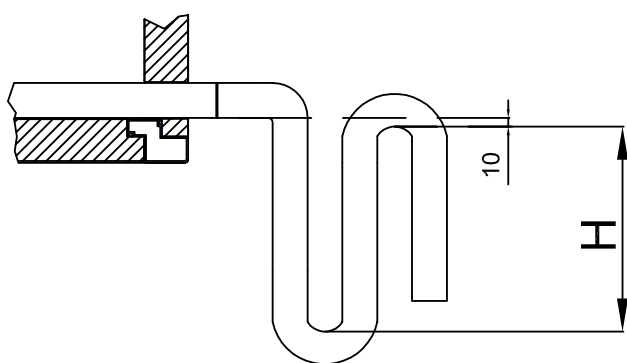
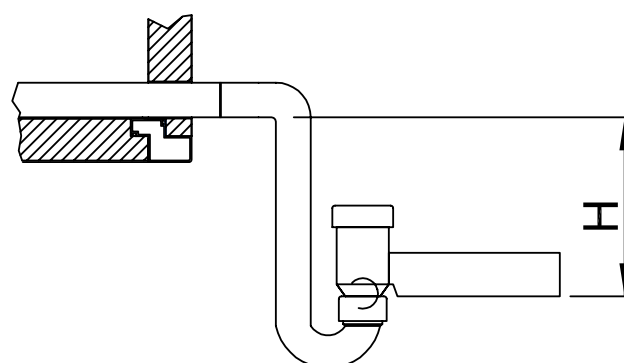

Figure 27
Figure 28
- Ensure an adequate height of foundation and thus a proper height of the water trap. Is the column of liquid (H) in the siphon too small, water may build up inside the drip tray.
- Below the installation of positive pressure siphon (Figure 27) and the installation of negative pressure siphon (Figure 28) is shown.